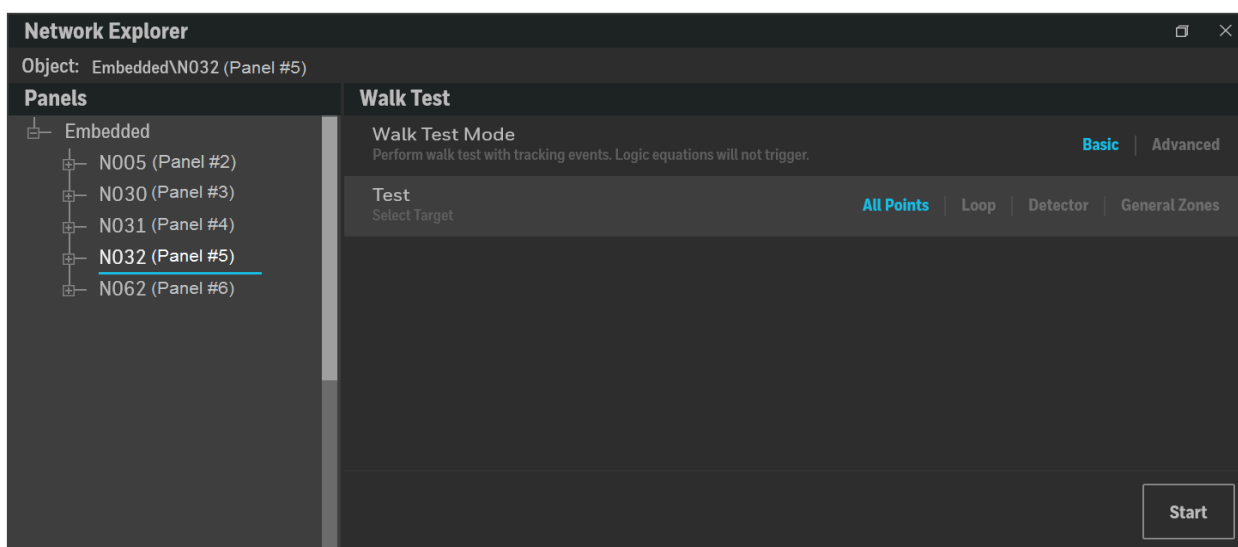

Figure 6.3 Walk Test Screen
2. In the Panels pane, right-click on the node to be tested and select **Walk Test**. The Walk Test window displays (see Figure 6.3).